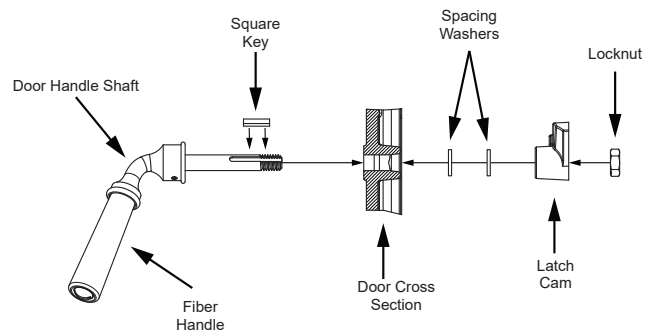

Figure 24.4
3. Install additional washer(s) as shown in **Figure 24.4**.
7. Install handle turning in a counter-clockwise motion to desired location on door handle rod (**Figure 24.4**).